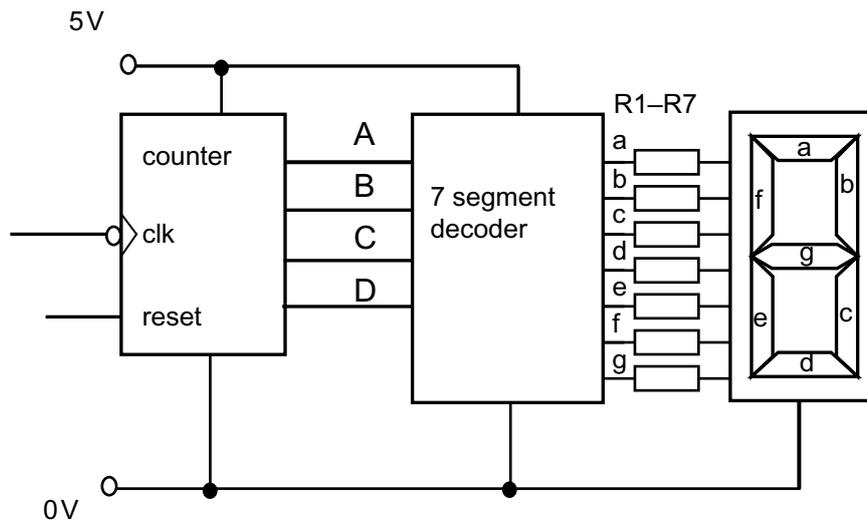

Fig. 1(c)
- (i) State the function of the resistors labelled R1–R7 in Fig. 1(c). [1]
- (ii) Briefly explain the purpose of the 7 segment decoder in the circuit shown in Fig. 1(c). [2]